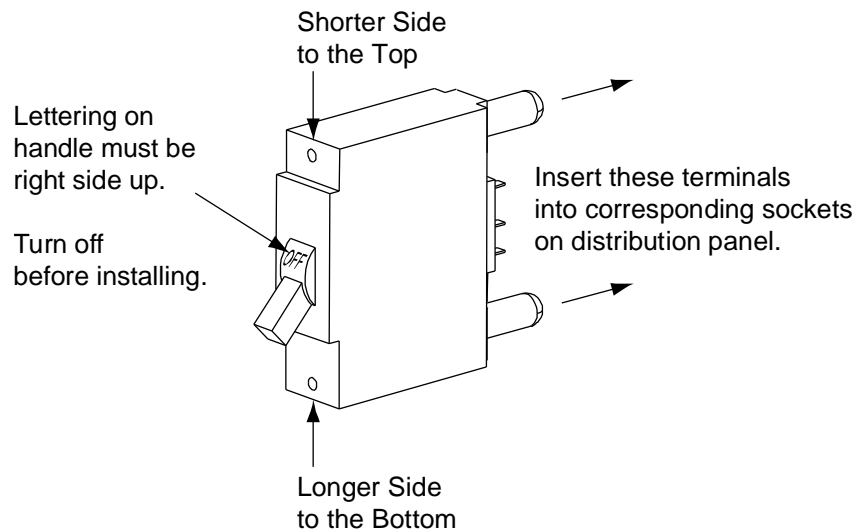

Figure 4-3
Note: Refer to Figure 4-3 as this procedure is performed.
- 5) Orient the circuit breaker as shown in Figure 4-3. Insert the terminals on the rear of the circuit breaker into their corresponding sockets on the distribution panel. Ensure the alarm contact on the back of the circuit breaker makes contact with the alarm terminal on the spring strip. Push distribution device in firmly until fully seated in the distribution panel.